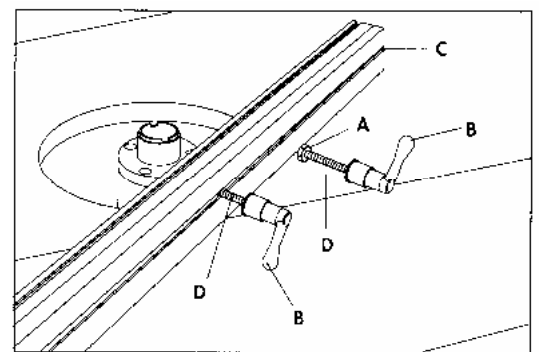
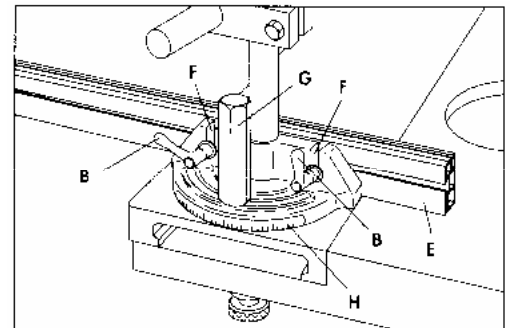

Fig. 3.36
Fig. 3.37
1. Insert two nuts (A) Fig.3.36 of locking levers (B) into fence channel (C).
2. Position fence (E) Fig.3.37 on miter gauge with two screws (D) Fig.3.36 of locking levers engaged into two notch (F) Fig.3.37 on top of miter gauge.
3. To slide fence (E) Fig.3.37, to the left or right, loosen locking levers (B), slide fence (E) to the desired position and tighten locking levers (B). To tilt the fence (E), loosen locking handle (G).